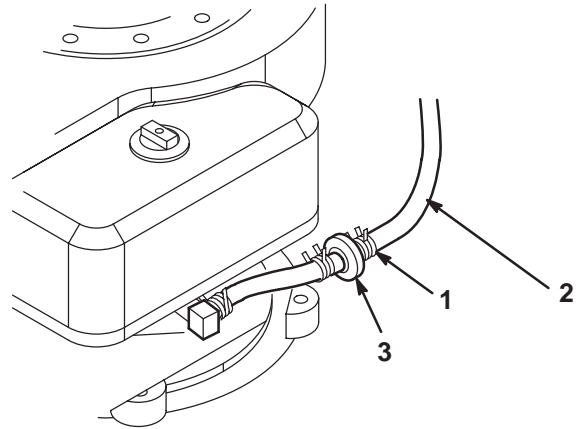

Figure 36
3. Loosen the hose clamp at the fuel filter and slide it up the fuel line away from the fuel filter (Fig. 36).
4. Pull the fuel line off of the fuel filter (Fig. 36).
6. Install the fuel line onto the fuel filter. Slide the hose clamp close to the fuel filter to secure the fuel line (Fig. 36).
3. Squeeze the ends of the hose clamps together and slide them away from the filter (Fig. 36).
5. Install a new filter and move the hose clamps close to the filter (Fig. 36).